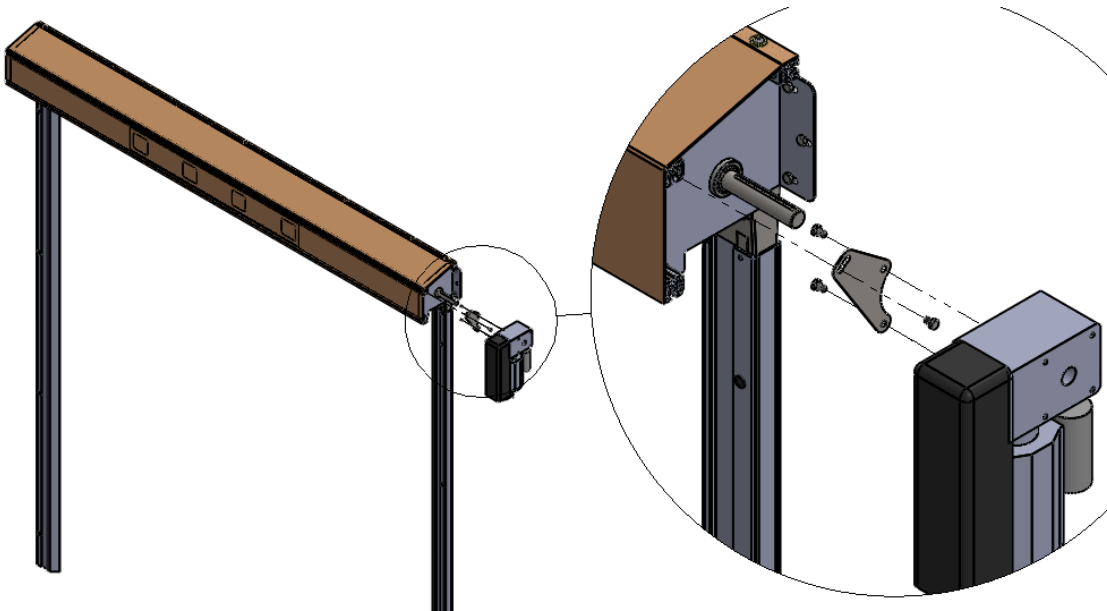

Figure 8 OPERATOR/BACKET ARRANGEMENT
1. Remove two M8 bolts from the motor housing side, and reinstall them with the torque bracket between the motor and the bolts. (Figure 8 OPERATOR/BACKET ARRANGEMENT)